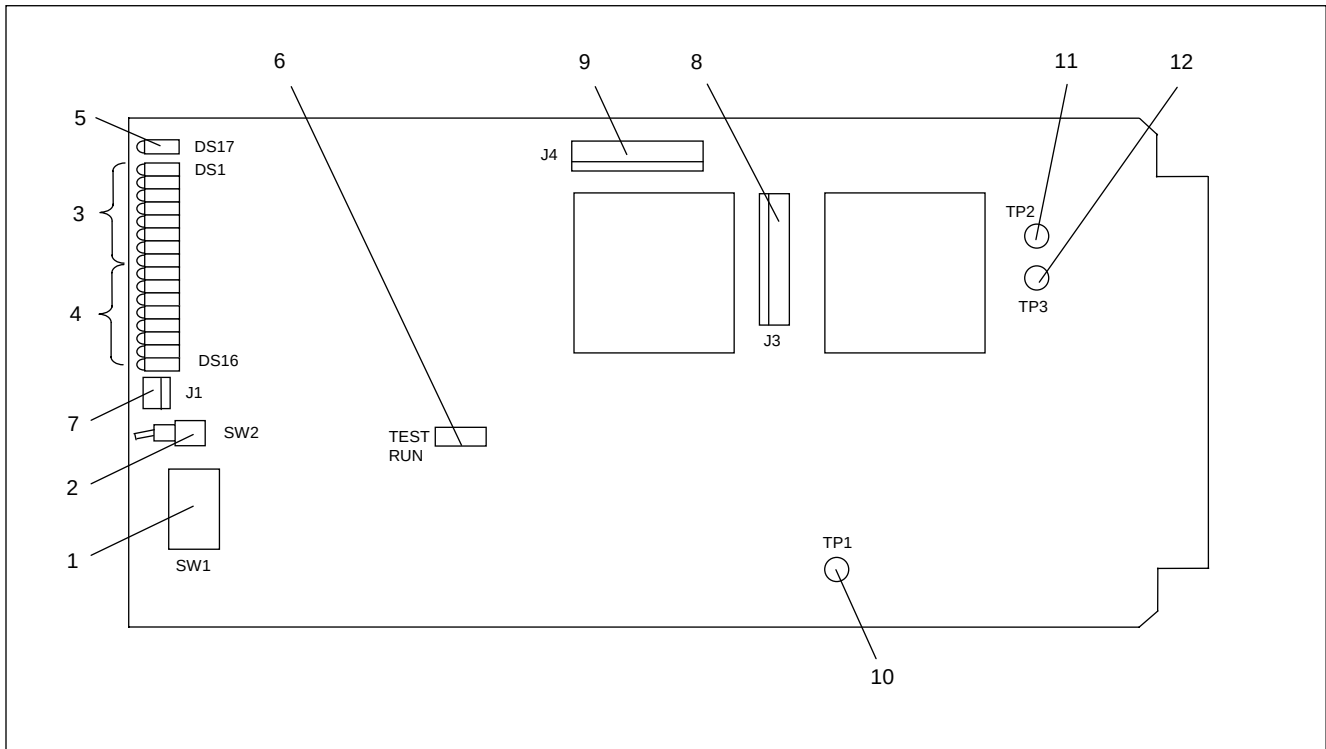

Figure 5. Controls and indicators, Status Module
7. Refer to Figure 5 for the location of switches and jumpers on the Status Module.